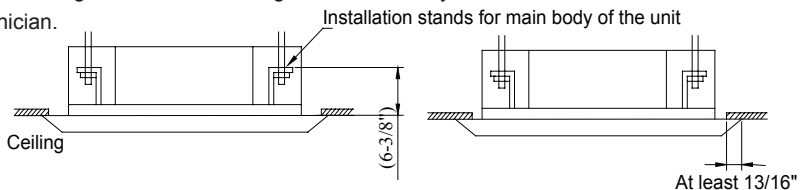

Fig. 3
- (3). Mount the unit to the previously installed threaded mounting rod. (Refer to Fig.3 above)
- (4). The unit must be level to operate correctly and to prevent water damage to ceiling and surroundings.
- (5). Remove the template.